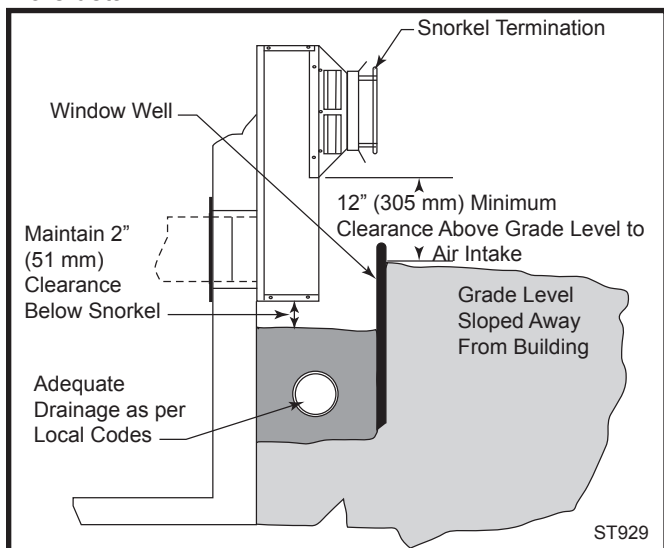

Fig. 40 Below grade installation.
1. Determine the appliance location. Refer to the appliance manufacturer's installation instructions for clearance to combustible requirements, termination options, number of elbows, maximum length, etc. Then position the appliance and plan vent routing accordingly. Consider locating the appliance in a place where there will be no interference with wall studs, electrical wiring, conduit, plumbing pipe or other obstructions. The termination should be located at least 12" (305 mm) (Fig. 40) above grade, remain above the snow line in geographical areas that accumulate snow and be away
7. If a wall thimble is used, push the pipe (which is connected to the appliance) carefully through the wall thimble until the DIRECT-TEMP pipe becomes fully engaged with the horizontal termination. If no thimble is used, place the Trim Plate (TP) on the DIRECT-TEMP pipe. Carefully push the DIRECT-TEMP pipe through the wall until fully engaged with the horizontal termination. Secure the trim plate to the wall.
**NOTE:** If a vertical rise is necessary on the exterior side of the building, a 14" (356 mm) and 36" (914 mm) Snorkel Termination (ST) is available. Follow the installation procedures for horizontal terminations. If the snorkel termination is to be located below grade, a window well is recommended with adequate and proper drainage as per local codes. Leave 2" (51 mm) clearance below snorkel to prevent water from entering the snorkel termination. Do not enclose the snorkel within a wall or other type of enclosure and **do not back fill**. Ensure that grade level slopes away from the building. (Fig. 40)